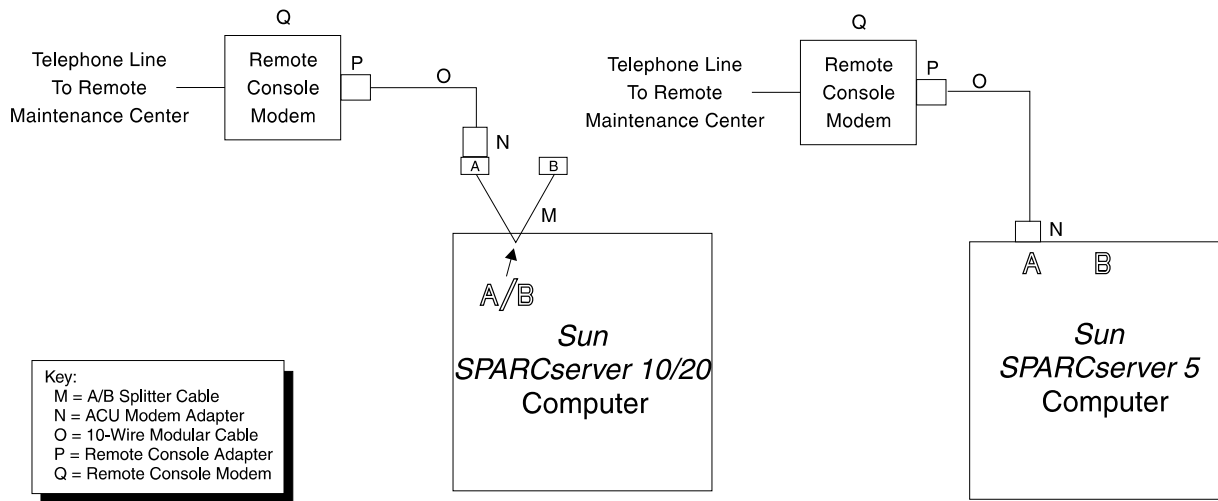

Figure 9-1: Remote Console Connectivity
- Check the port connectivity—see Figure 9-1. Refer to Chapter 3, "Installing the Sun SPARCserver Computer" and Appendix D, "Sun SPARCserver Computer Factory Installation Procedures", for details.
- Check modem setup—see Figure 9-1. Refer to Chapter 3, "Installing the Sun SPARCserver Computer" and Appendix D, "Sun SPARCserver Computer Factory Installation Procedures", for details.